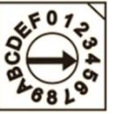

**Fig. 15 – Pin CN5**
**NOTE:** In case the factory installed drain pump has to be disabled, place a Jumper (field supplied) on the Pin CN5 "WATER" connector and disconnect the Pin CN13 "PUMP" (see Fig 15).